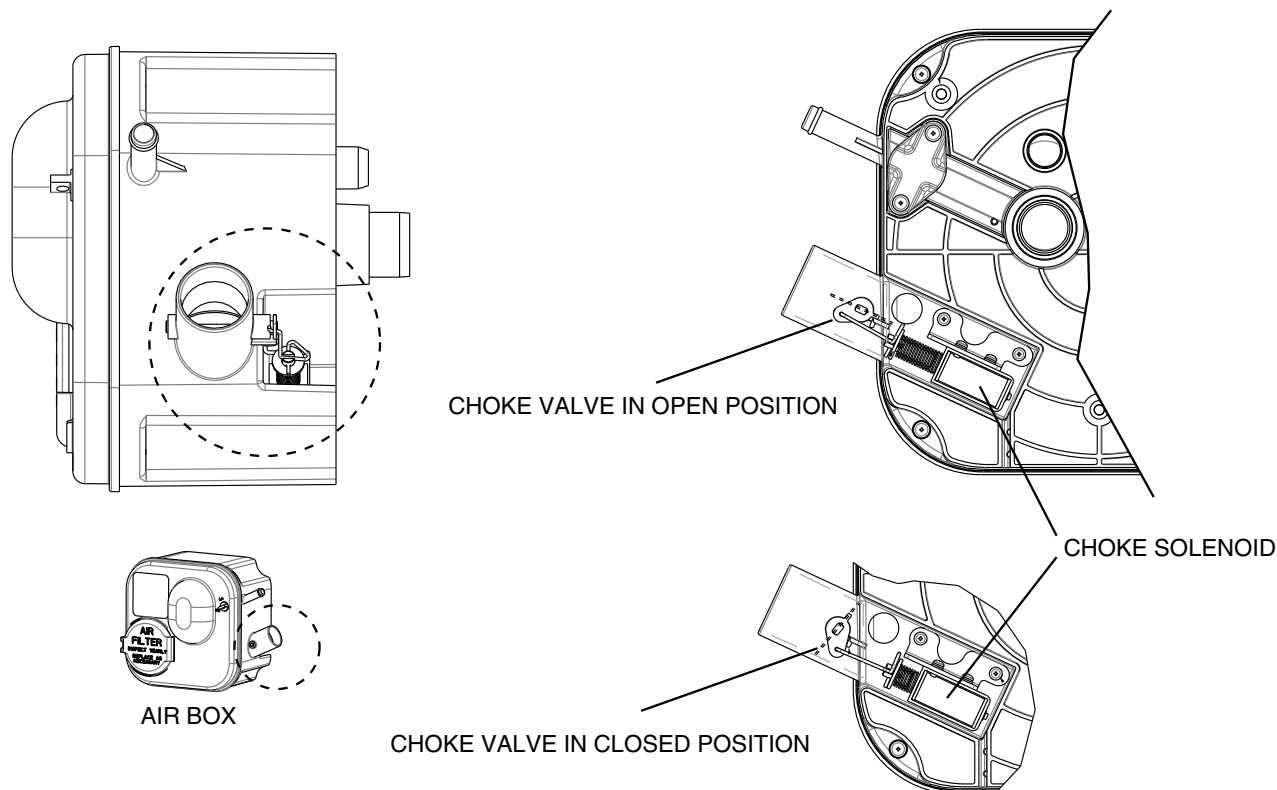

Figure 194. 8 kW Choke Solenoid
1. Refer to Figure 194 for location and function of choke solenoid. Turn off the fuel supply to the generator. Set the AUTO-OFF-MANUAL switch to the MANUAL position. While cranking, the choke solenoid should pull the choke plate closed. If the choke solenoid does not pull in, verify that the choke can be manually opened. There should be no binding or interference.